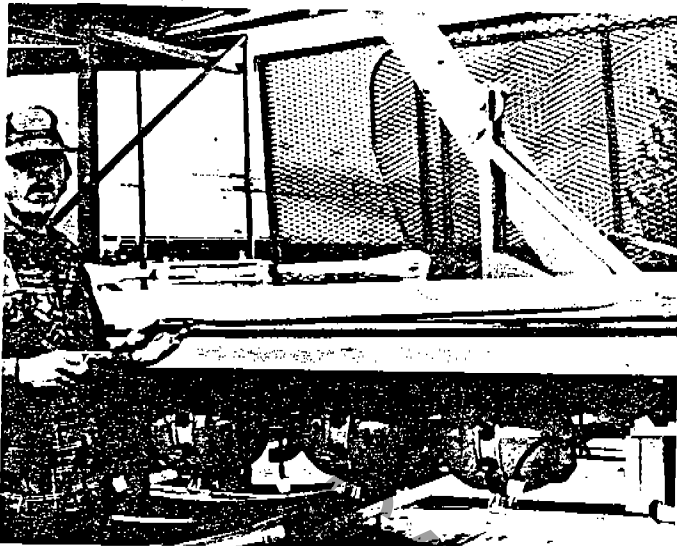

Fig. 13
(1) The 4 jackstand braces (2 short, 2 long) are pinned to the storage ears on the left and right outriggers. (Fig. 13)